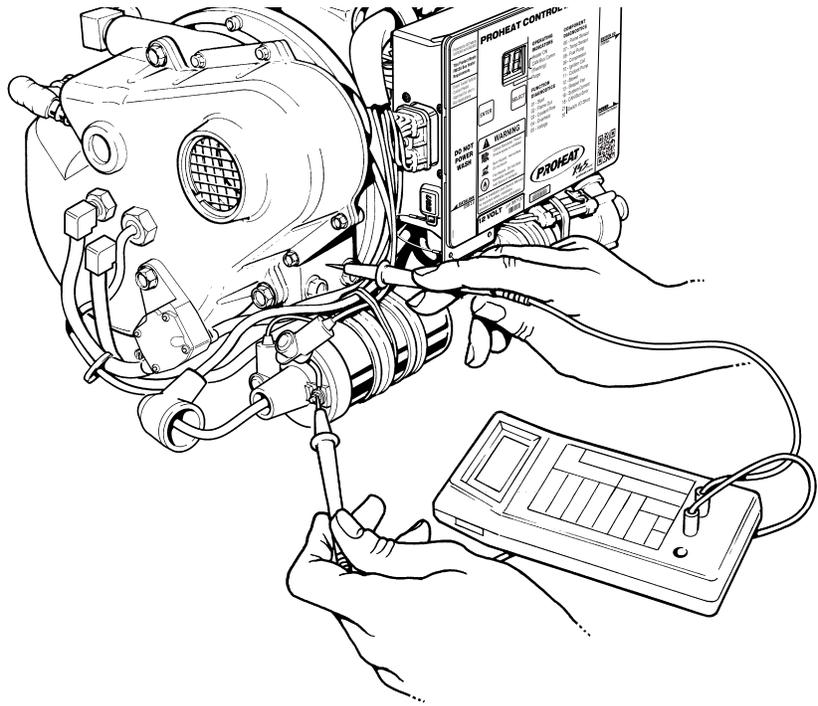

Figure 4-19. Check Coil Voltage
5. Select the DC Volts range of a multimeter and connect as per figure 4-19. The positive lead of the multimeter should be attached to the positive coil lead. The negative lead of the multimeter should be attached to the heater chassis.